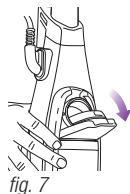

fig. 7
- 4 Pull down on the water tank lid to open. (fig. 7)